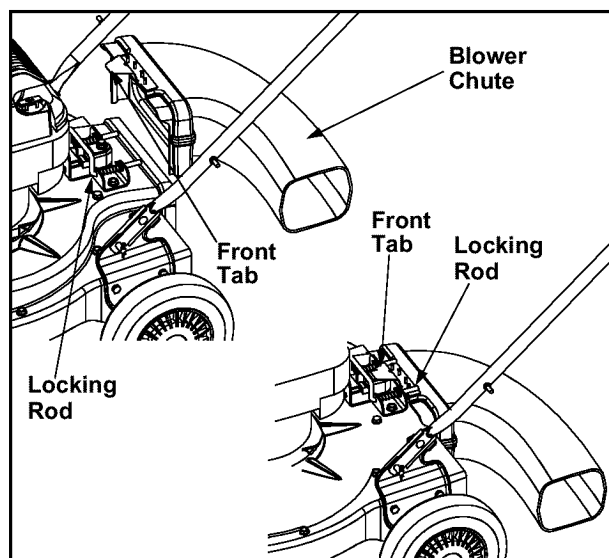

Figure 5
- Grasp blower chute with one hand and slide locking rod on mounting bracket with other hand toward engine. Use the end of mounting bracket as leverage when sliding the locking rod. See Figure 5.
- Grasp blower chute with one hand and pull lock rod on mounting bracket with other hand toward engine to release. Refer to Figure 5.